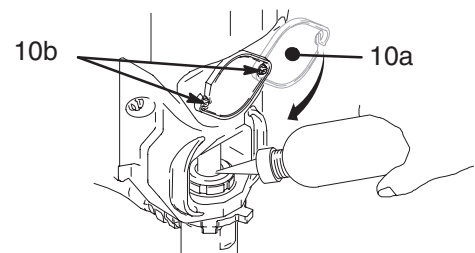

Fig. 14 9577A
7. Fig. 14. Fill packing nut with Graco TSL until fluid flows onto top of seal.